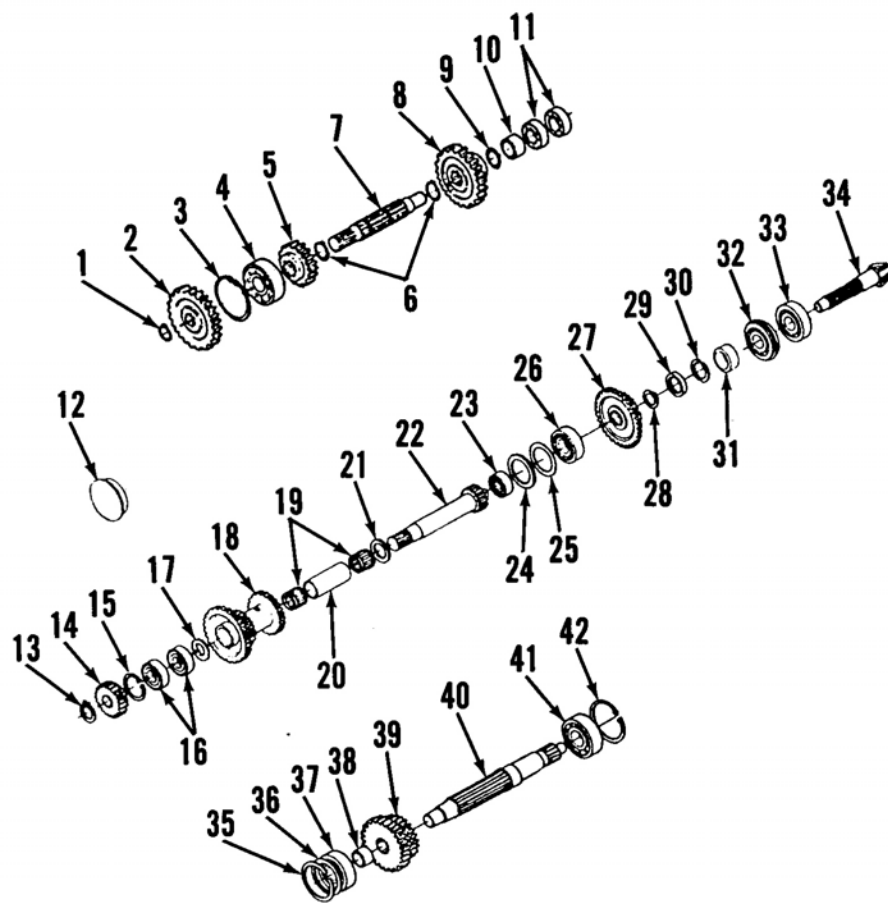

Fig. 71—Exploded view of transmission gears and shafts used on Models B6100HST-E and B7100HST-E.
In high range position, shift lever (2—Fig. 70) is pushed completely down. Power is transmitted from hydrostatic transmission output shaft and gear to gear (14—Fig. 71 and 72), to shaft and gear assembly (22), to gear (2), to shaft (7), to high range gear (8), to smaller side of gear (27) and then to bevel pinion (34).
70. Disassembly is evident after reference to Fig. 70 and Fig. 71 or 72. Inspect all components for damage and excessive wear.
Shift fork (10-Fig. 70) width should be 6.8-6.9 mm (0.268-0.272 inch). Shift groove width in gear (27-Fig. 71 or 72)
should be 7.0-7.1 mm (0.276-0.280 inch). Side clearance between shift fork (10-Fig. 70) and groove width in gear (27-Fig. 71 or 72) should be 0.1-0.3 mm (0.004-0.012 inch) with an acceptable limit of 0.6 mm (0.024 inch). Spring (8-Fig. 70) free length should be 22 mm (0.866 inch) with an acceptable minimum length of 20 mm (0.787 inch). Renew all parts as needed.
Fig. 72—Exploded view of transmission gears and shafts used on Models B6100HST-D and B7100HST-D. Refer to legend in Fig. 71 for identification of parts except for the following.